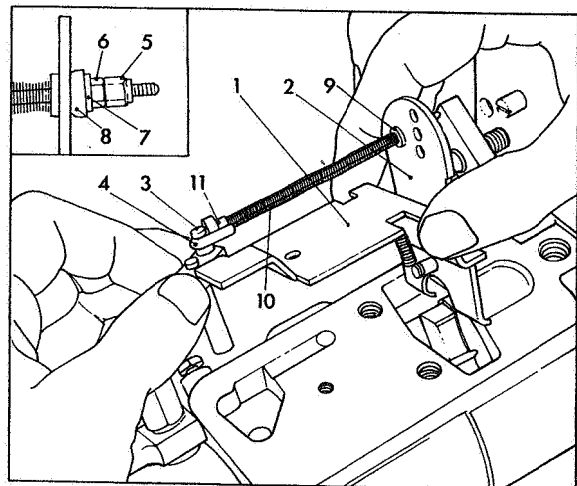

Fig 3 Removing governor linkage assembly
As shown in Fig 3 lift off as an assembly, control bracket (1) complete with governor arm (2), metering valve (3) and linkage hook assembly.